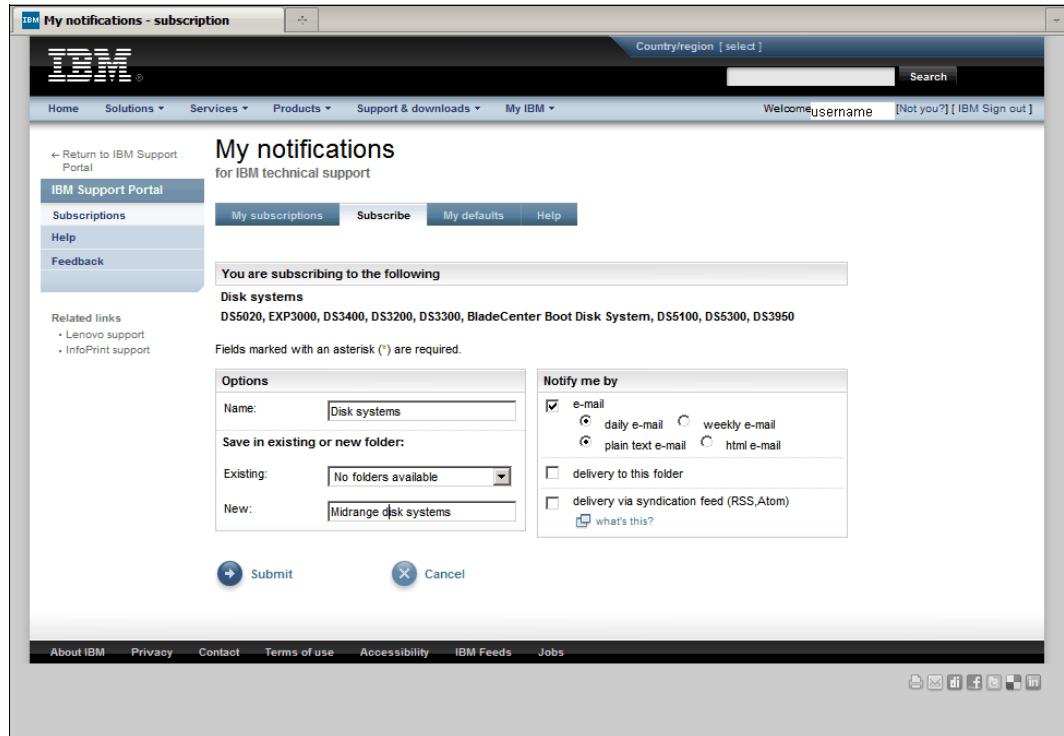

Figure A-20 My notifications - setup
- Select the check box beside all the Disk systems that want to receive notifications for, and then click the **Continue** button. You will see the website as shown in Figure A-20 on page 730. Here you can manage when and how you receive your product notifications.